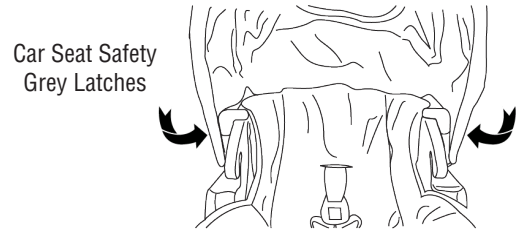

Fig. 9
15. To use the car seat feature, lock back wheels, close the canopy as described in the canopy section (Please see Page 7 Fig. 4A). Recline seat by squeezing both sides of cord housing as described in seat back positioning section (Please see Page 11 Fig. 8). Turn and lock grey latches (Fig. 9). Align car seat as shown in Fig. 9A. Angle feet first, while lowering car seat into a locked position on the child tray. Car seat is in a locked position when the car seat "CLICKS" into the child tray. Graco car seat locked position (Fig. 9B) Evenflo car seat locked position (Fig. 9C). Make sure car seat is locked in place by pulling upward on car seat.